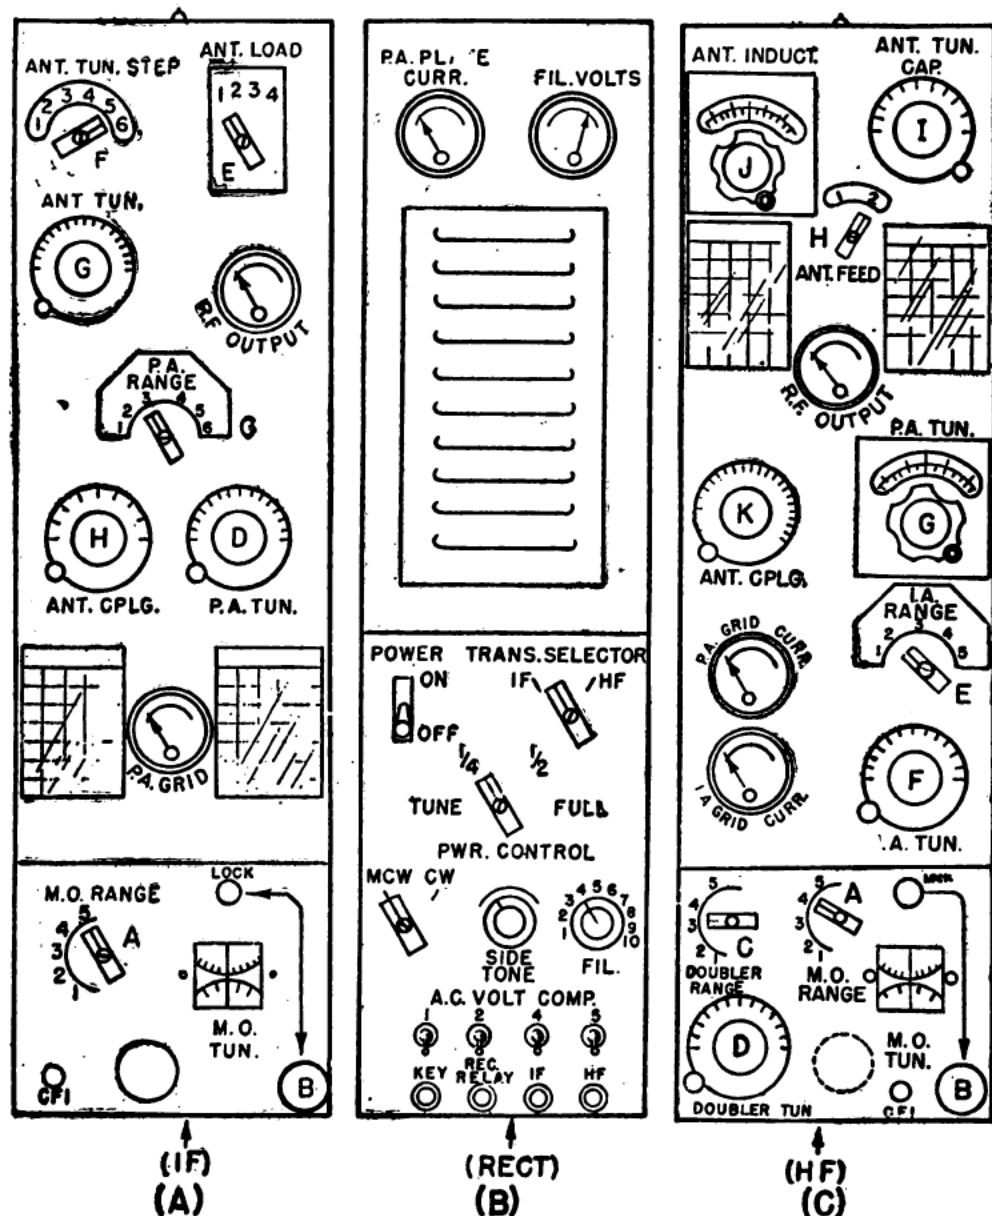

Figure 71.—Full panel view GO-9 transmitter.
Figure 71 gives you a full panel view of the GO-9 transmitter, showing you the three units of the type discussed. Examine the figure. The L. F. section (A) is familiar to you, but the H. F. section (C) has a somewhat different line-up of circuits.
Now take a good look at the POWER SECTION of your GO-9 (fig. 71 *B*). Upper left, you find the ON and OFF SWITCH by means of which you control the filament voltage of both sections of the GO-9, and start the action of the rectifier section.